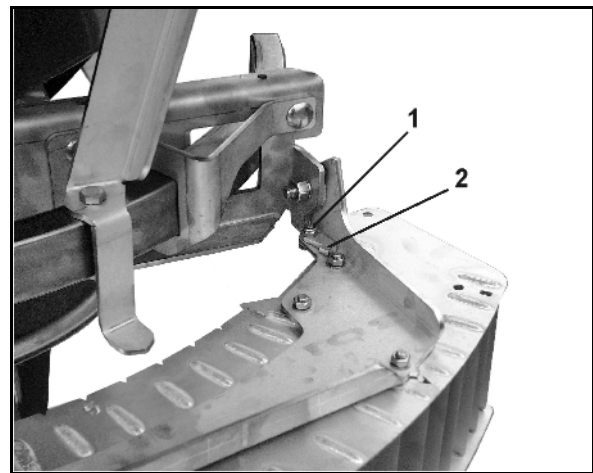

Fig. 102
On the upper side of the border spread deflector you will find on the right hand and left hand side each one setting lock (Fig. 102).
1. Slacken the nuts (Fig. 102/1) of the setting locks.
3. Position the setting locks up (Fig. 102/2) to the stop and firmly tighten the locks.